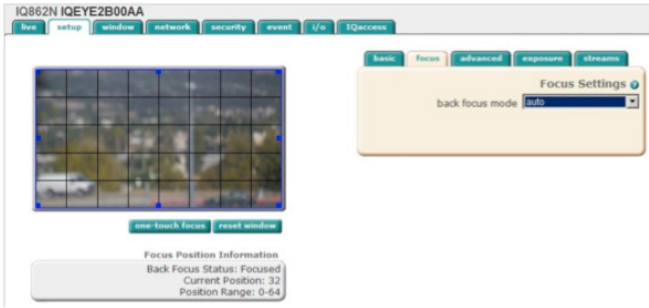

Figure 20
4. Browse to the camera homepage and go to the Setup > Focus tab (Figure 20).